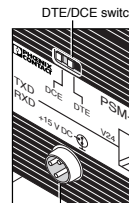

Fig. 6
- Via a separate plug-in power supply (connection: see Fig. 6): PSM-NT-110AC/15DC/100 (Order No. 2787457), or PSM-NT-230AC/15DC/100 (Order No. 2787444)
→ Set switch to DCE (see Fig. 6).